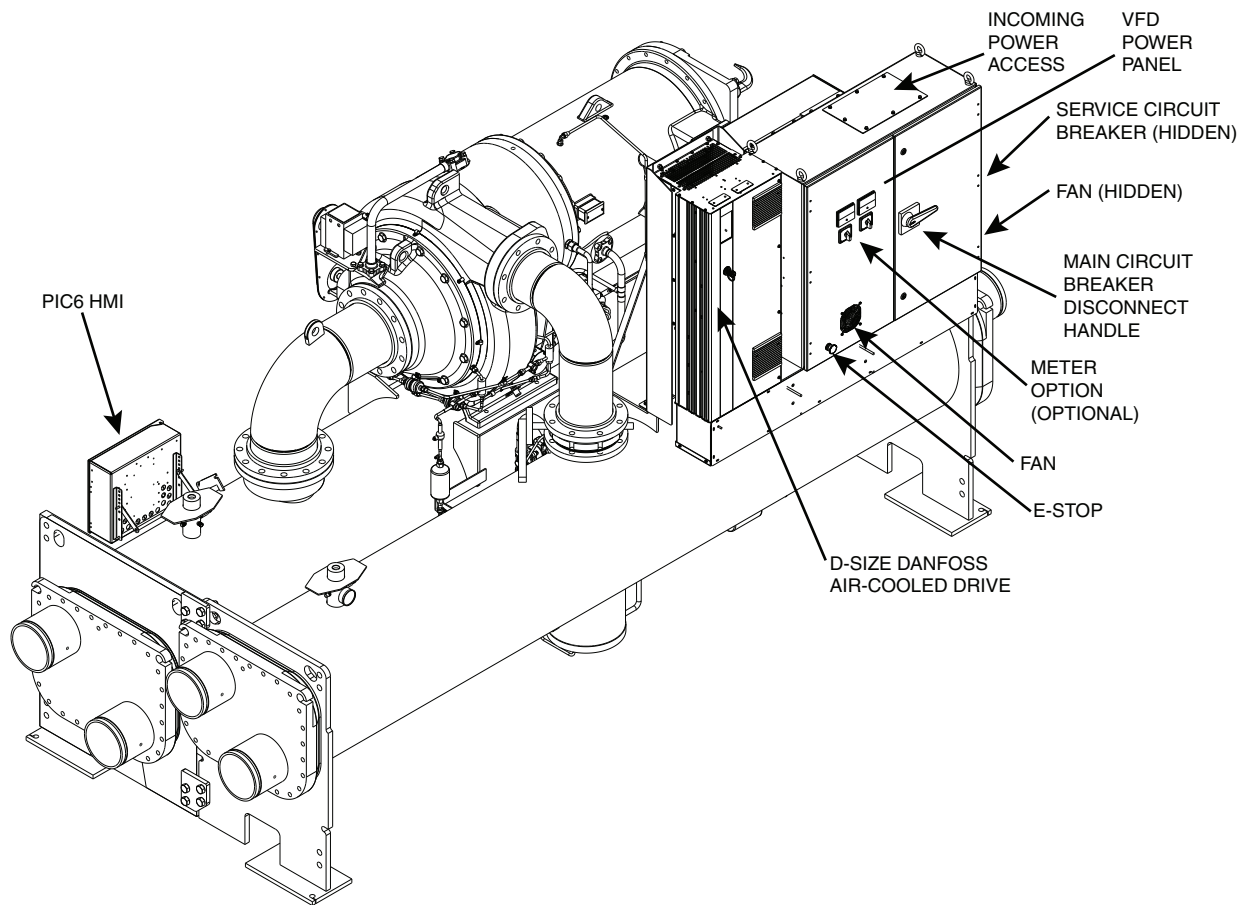
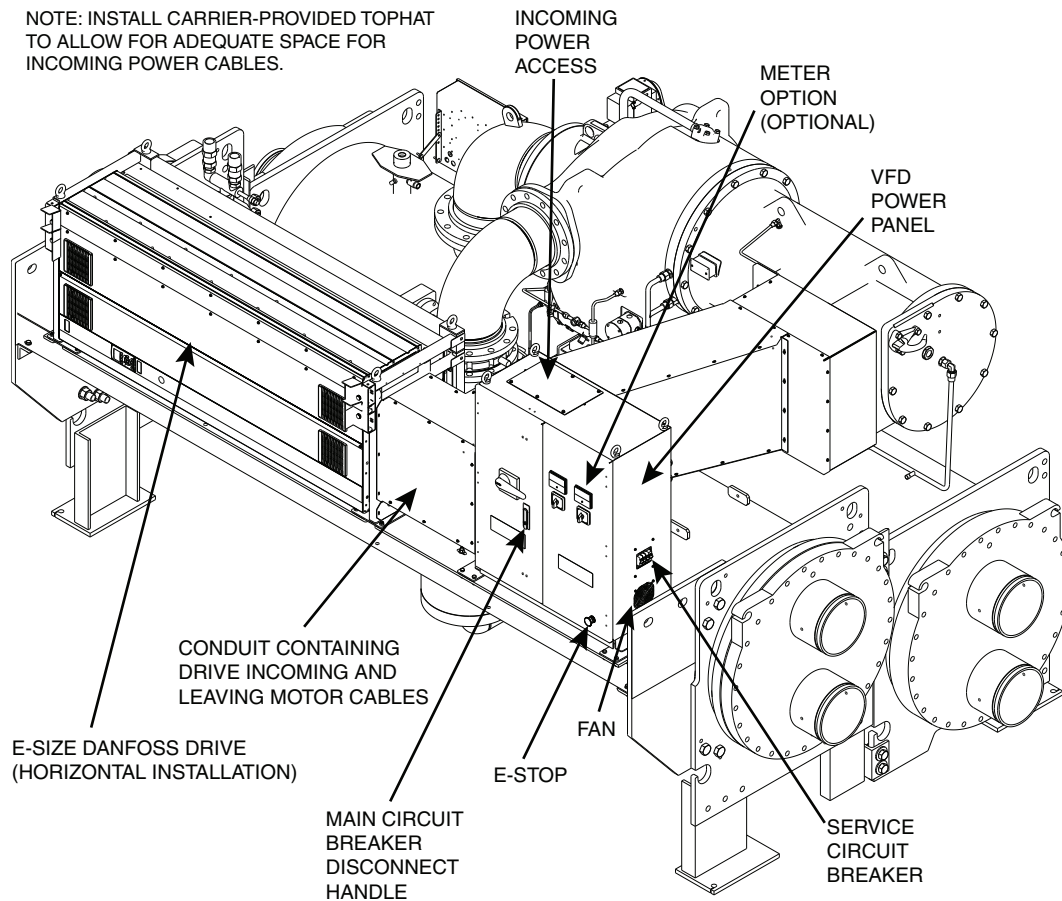
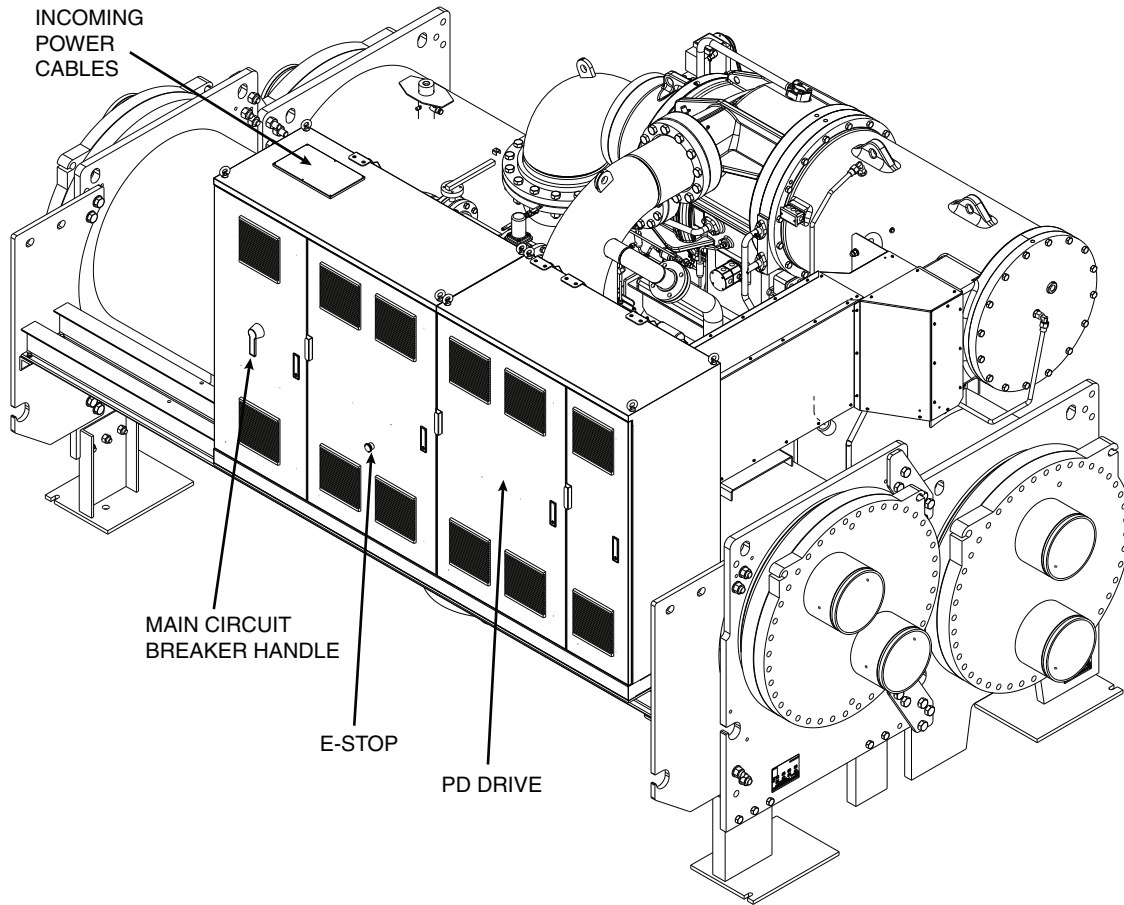

Fig. 3 — D Size Drive
Fig. 4 — E Size Drive
Fig. 5 — Size PD Danfoss Drive (Integrated VFD and VFD Power Panel)
The Carrier FC-102 Danfoss product offering consists of three main configurations: D size, E size, and D size parallel drive (PD) modules. See details for the D size drive in Fig. 3, for the E size drive in Fig. 4, and for the D size parallel drive modules in Fig. 5. The product range covers a drive range of 315 to 1000 kW. When any work or troubleshooting is required, it is critical to determine the type of drive since their design layouts vary. This can be done by locating the Carrier VFD label located on the outside of the drive or the Danfoss type code on the Danfoss VFD nameplate and matching up the appropriate VFD Power Rating in Table 2 or Table 3.